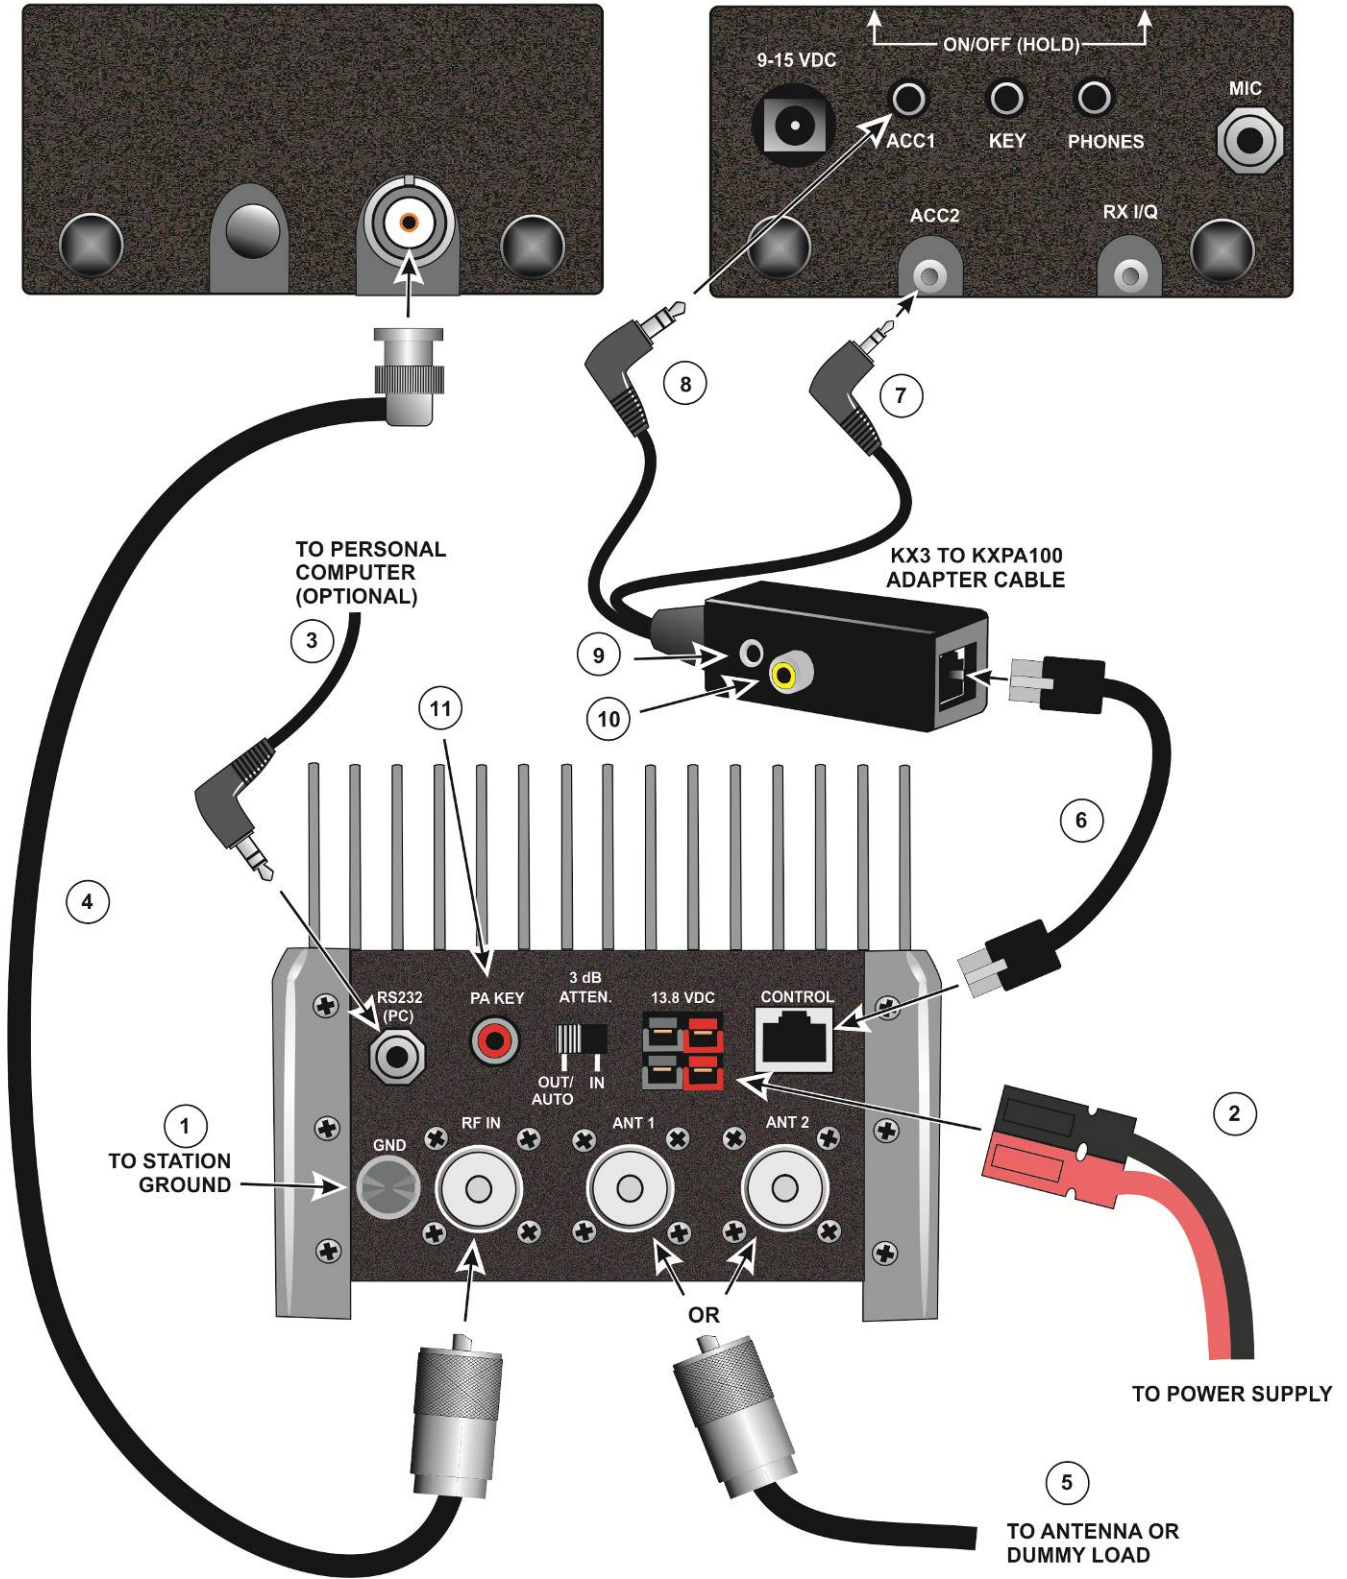

Figure 3. Connecting the Amplifier to a KX3 Using the Optional Adapter Cable.
Figure 3 shows the connections required. See the following text for details of each cable and its function.
An amplifier with the optional KXAT100 antenna tuner is shown. If your amplifier does not have the antenna tuner option, you will have only one ANT connector. Otherwise there is no difference in the connections. These circled numbers in the following notes refer to the corresponding numbers on Figure 3.
Notes Continued Following Figure 3.
- **Connections:** Your KX3 must be connected to the KXPA100 amplifier with the KX3 to KXPA100 Adapter Cable as shown in Figure 3 on page 12.